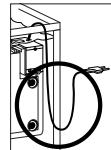

Fig. 1
E) To avoid the possibility of the appliance plug or receptacle getting wet, position the appliance to one side of a wall-mounted receptacle and prevent water from dripping onto the receptacle or plug. A "drip loop" (Fig. 1) should be arranged for the cord connecting the appliance to the receptacle. The "drip loop" is that part of the cord below the level of the receptacle or the connector, if an extension cord is used, to prevent water travelling along the cord and coming in contact with the receptacle.